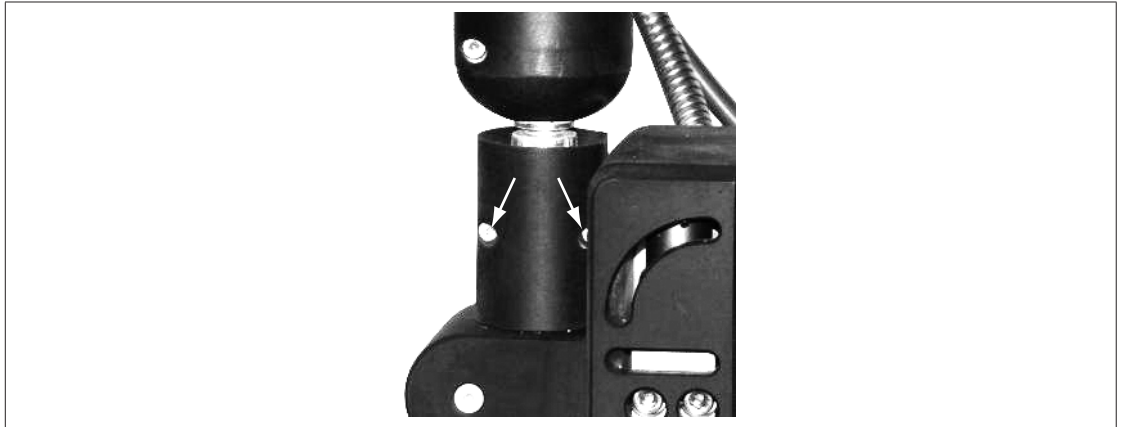

Figure 6: Install the protection against contact
10. Mount the enclosed protection against contact at the hydraulic connection between the hose and the HB 950. Tighten the screws illustrated (see Figure 6).